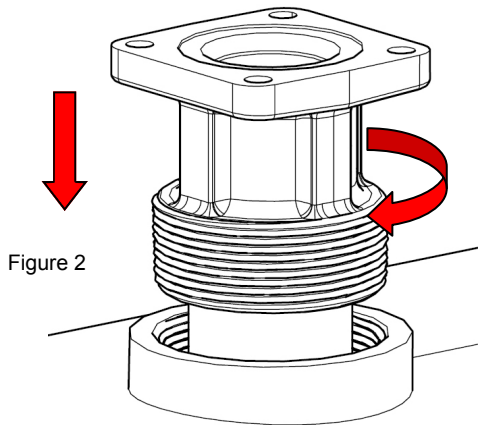

Figure 2
2. Screw the inlet flange (with suction pipe) into the tank flange; seal threads liquid tight with appropriate thread sealant (Figure 2).